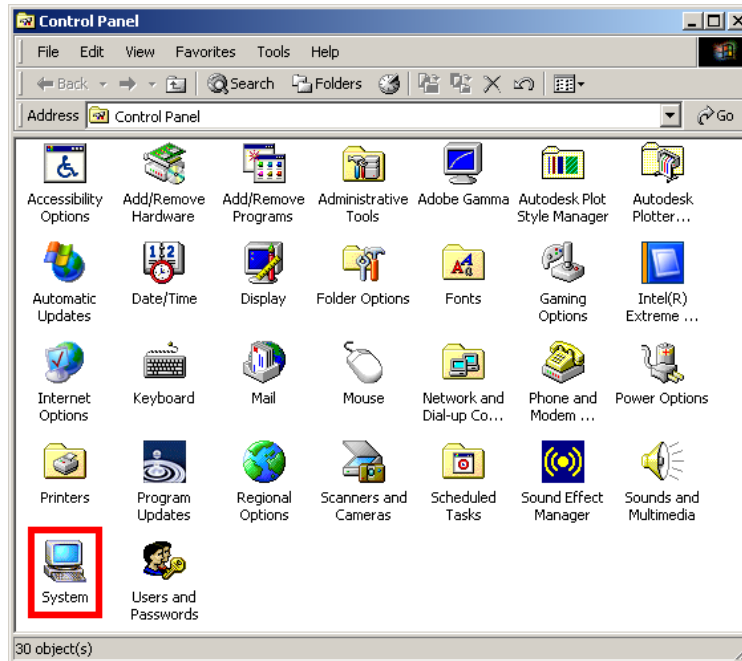

Figure 5-36: System Icon
Step 2: Double-click the **System** icon (Figure 5-36).